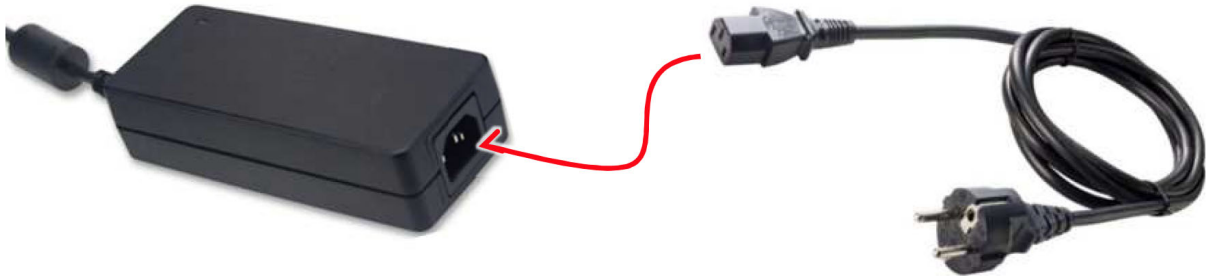

Figure 21 - Connecting the power pack with the power cable (example with Schuko-type plug)
- Connect the C13 (IEC320) socket of the power cable to the C14 (IEC320) plug of the power pack (Figure 21);